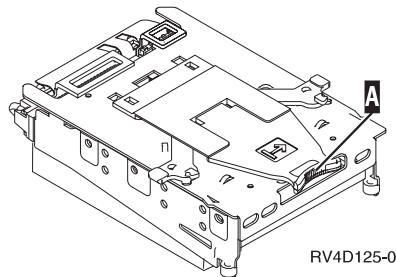

Figure 6. Disk Unit
- \_\_\_ 10. Pull the blue handle **A** out toward you before you install the disk unit into the system unit (Figure 6).